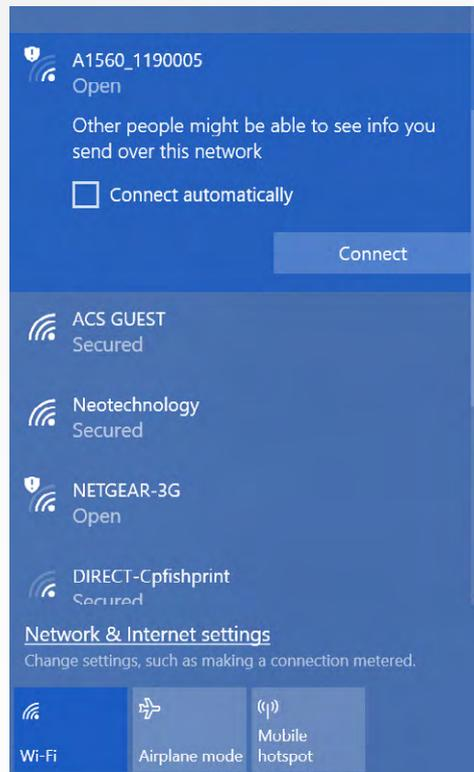

FIGURE 3 A1560 IN THE LIST OF AVAILABLE WI-FI NETWORKS (WINDOWS 10)
3. Find an open Wi-Fi network with A1560_XXXXXXX SSID in an available network list and connect to it (Figure 3)